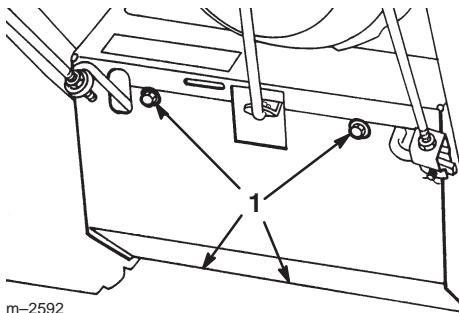

**Figure 26**
- Disconnect the spring from the notch in the bottom edge of the side plate (Fig. 26).
- Hook the spring into the notch in the bottom edge of the side plate (Fig. 26).